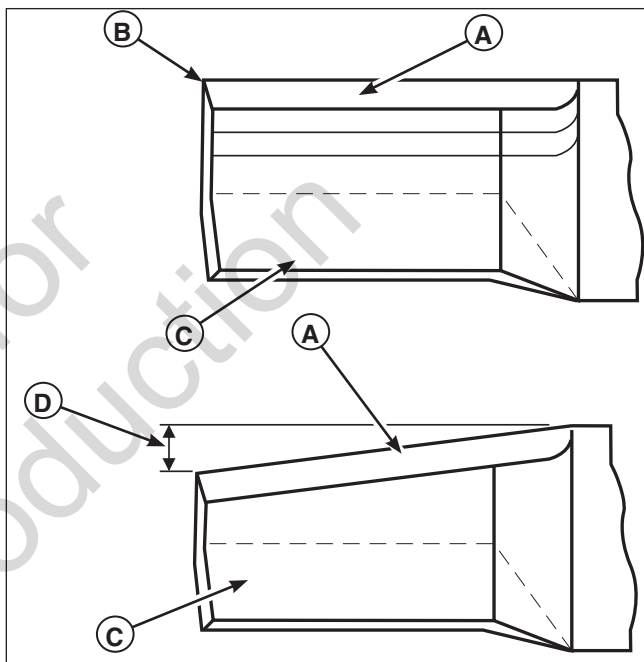

Figure 34. Inspecting the Mower Blade Tips
2. Inspect the mower blade (Figures 34 & 35). Discard the mower blade if it has any of the below conditions:
- A.) Has more than .5" (12,7 mm) of the mower blade metal removed from previous sharpening or wear (D, Figure 34).